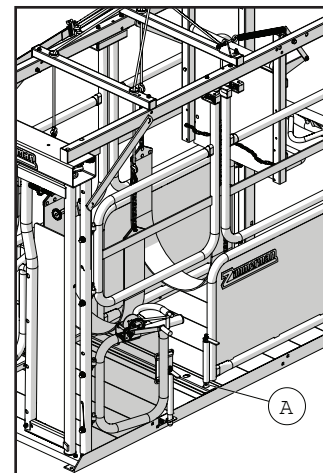

Figure 4: Rear lower gate in loading position
5. Be sure the rear lower gates (a) on each side of the chute are in the loading position (the outsided latch slot) as shown (Figure 4).